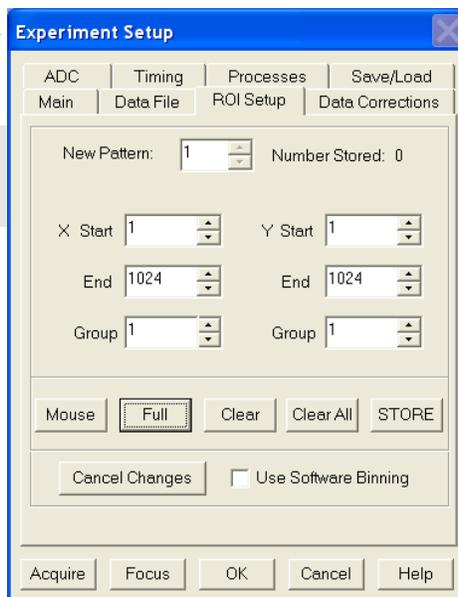

Figure 91. ROI Setup tab
A Region of Interest (ROI) may be the entire CCD array or it may be a rectangular subregion of the array. For data acquisition, the definition of such a region is done from the **ROI Setup** tab (Figure 91), accessible after selecting **Experiment Setup** from the **Acquisition** menu or from the **Experiment Setup|ROI Setup** tab (Figure 91, page 101). ROI Setup allows you to create multiple ROIs with greater flexibility in ROI location and width.
1. Open the **Experiment Setup** dialog and click on the ROI Setup tab to open the **ROI Setup** tab (Figure 91).